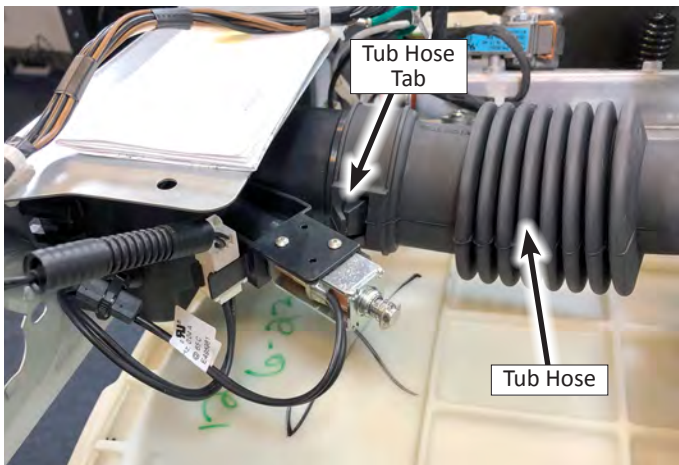

Figure 1
5. Disconnect tub hose from DVT enclosure (see Figure 1).